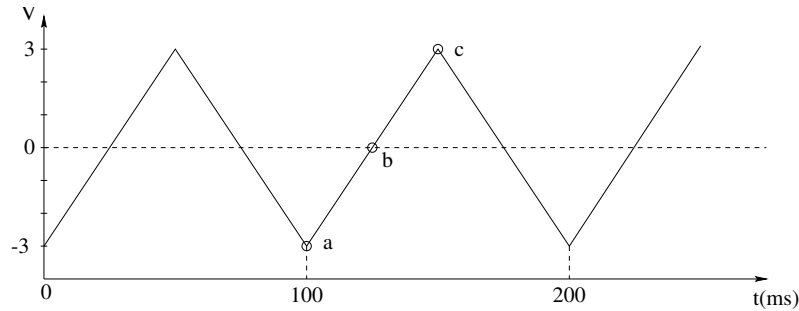

Figure 5: A triangular waveform
2. If necessary, adjust the signal generator amplitude to 3 V and waveform to Triangle (Fig. 5).